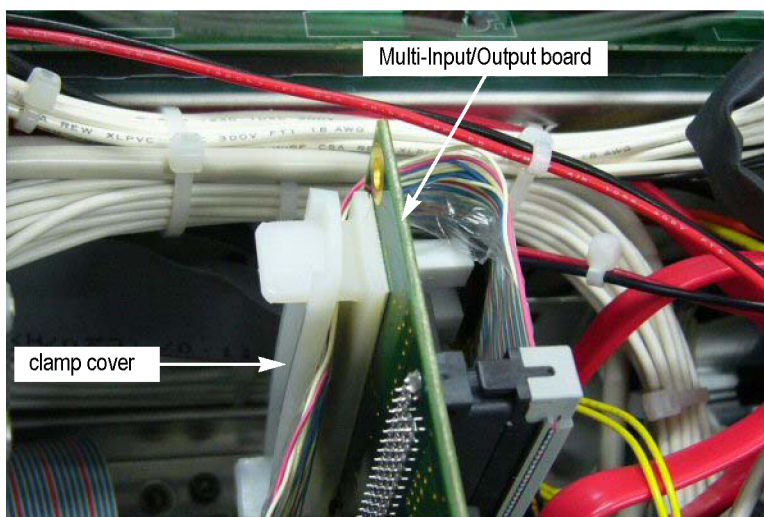

Figure 13: Removing the clamp cover
3. Remove the clamp cover from the cable clamp to release the ribbon cable. (See Figure 13.)